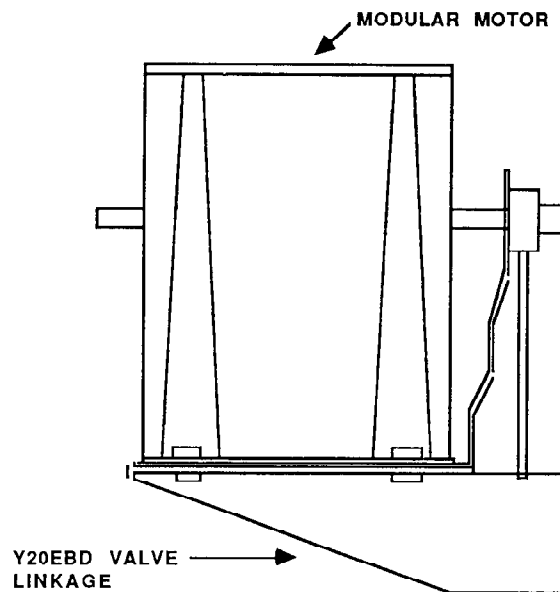

FIGURE 10. MOUNTING MMR TO JOHNSON Y20EBD VALVE LINKAGE
3. Take the mounting bracket (See Figure 10) and mount the Johnson gear housing on the formed side of the mounting bracket. Do Not Tighten.